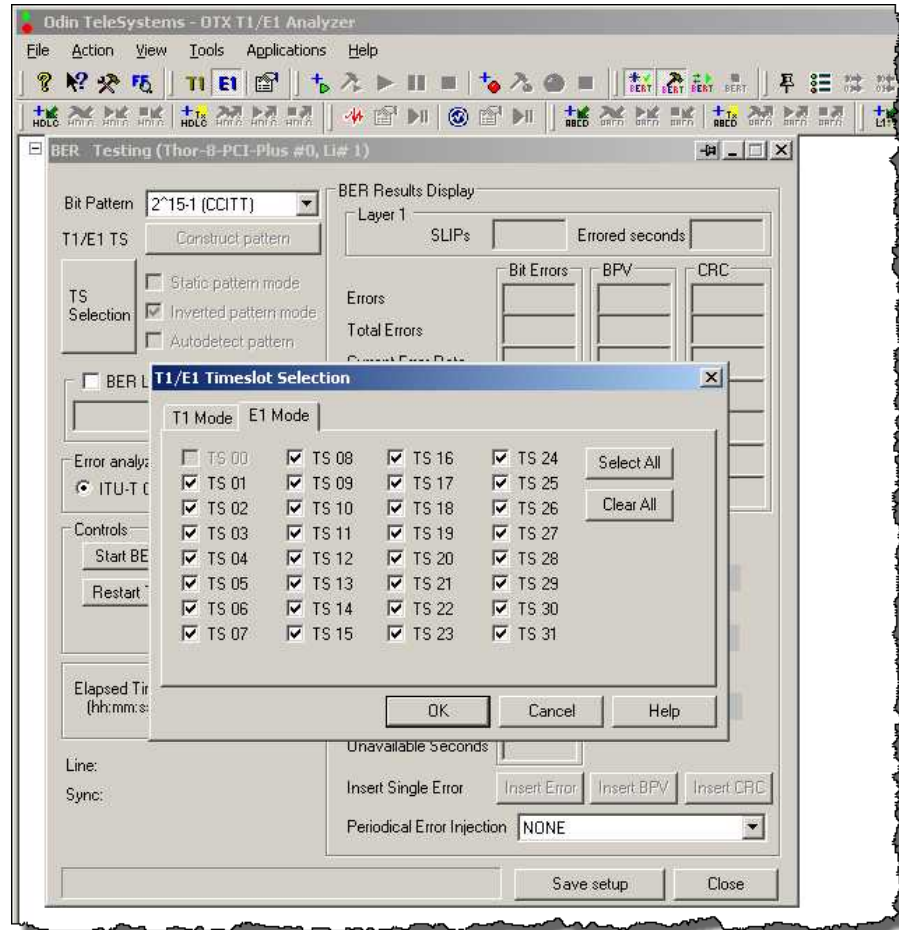

Figure 25 Configure BERT.
6. Click on the "BERT Setup" icon (icon with a "hammer") on the toolbar to setup all spans together. In the "BERT Testing" window set "Bit Pattern" option to "2¹⁵-1 (CCITT)". Then press "TS Selection" button and "Select All" button in the opened window. Press "OK" and "Save setup" (See Figure 25).